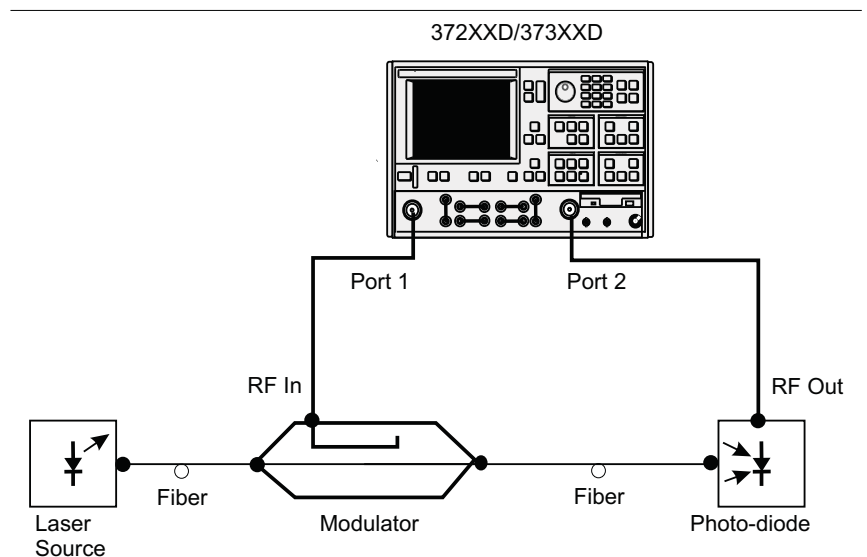

Figure 8-33. E/O Measurement Setup
Optical modulators modulate digital data signals over a light wave carrier and send it over fiber optic networks. Since a VNA is only capable of generating and measuring electrical signals, a laser source is required to provide optical input to the modulator DUT and a photo-diode/photo-receiver is required to convert the modulator output back to an electrical signal that can be measured by the VNA. The MN4765A (65 GHz characterized photo-diode) is used with the following procedure. The equipment set up for an E/O measurement is shown in Figure 8-33, below.
- Step 1.** Set-up the measurement as shown in Figure 8-33.